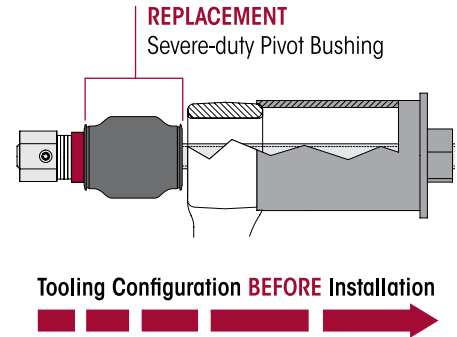

FIGURE 9
5. Using a 3/4" impact wrench, rotate the drive screw in a continuous motion without stopping until the pivot bushing is seated in the hub and slightly overshoots the opposite end of the hub. It is necessary to overshoot the desired final position, see Figures 9 and 10.